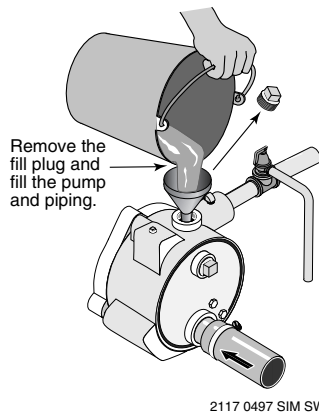

Figure 17: Remove the Fill Plug and Fill the Pump
1. Remove the fill plug and fill the pump (see Figure 17). Fill all piping between the pump and the well, and make sure that all piping in the well is full. If you have also installed a priming tee in the suction piping, remove the plug from the tee and fill the suction piping.